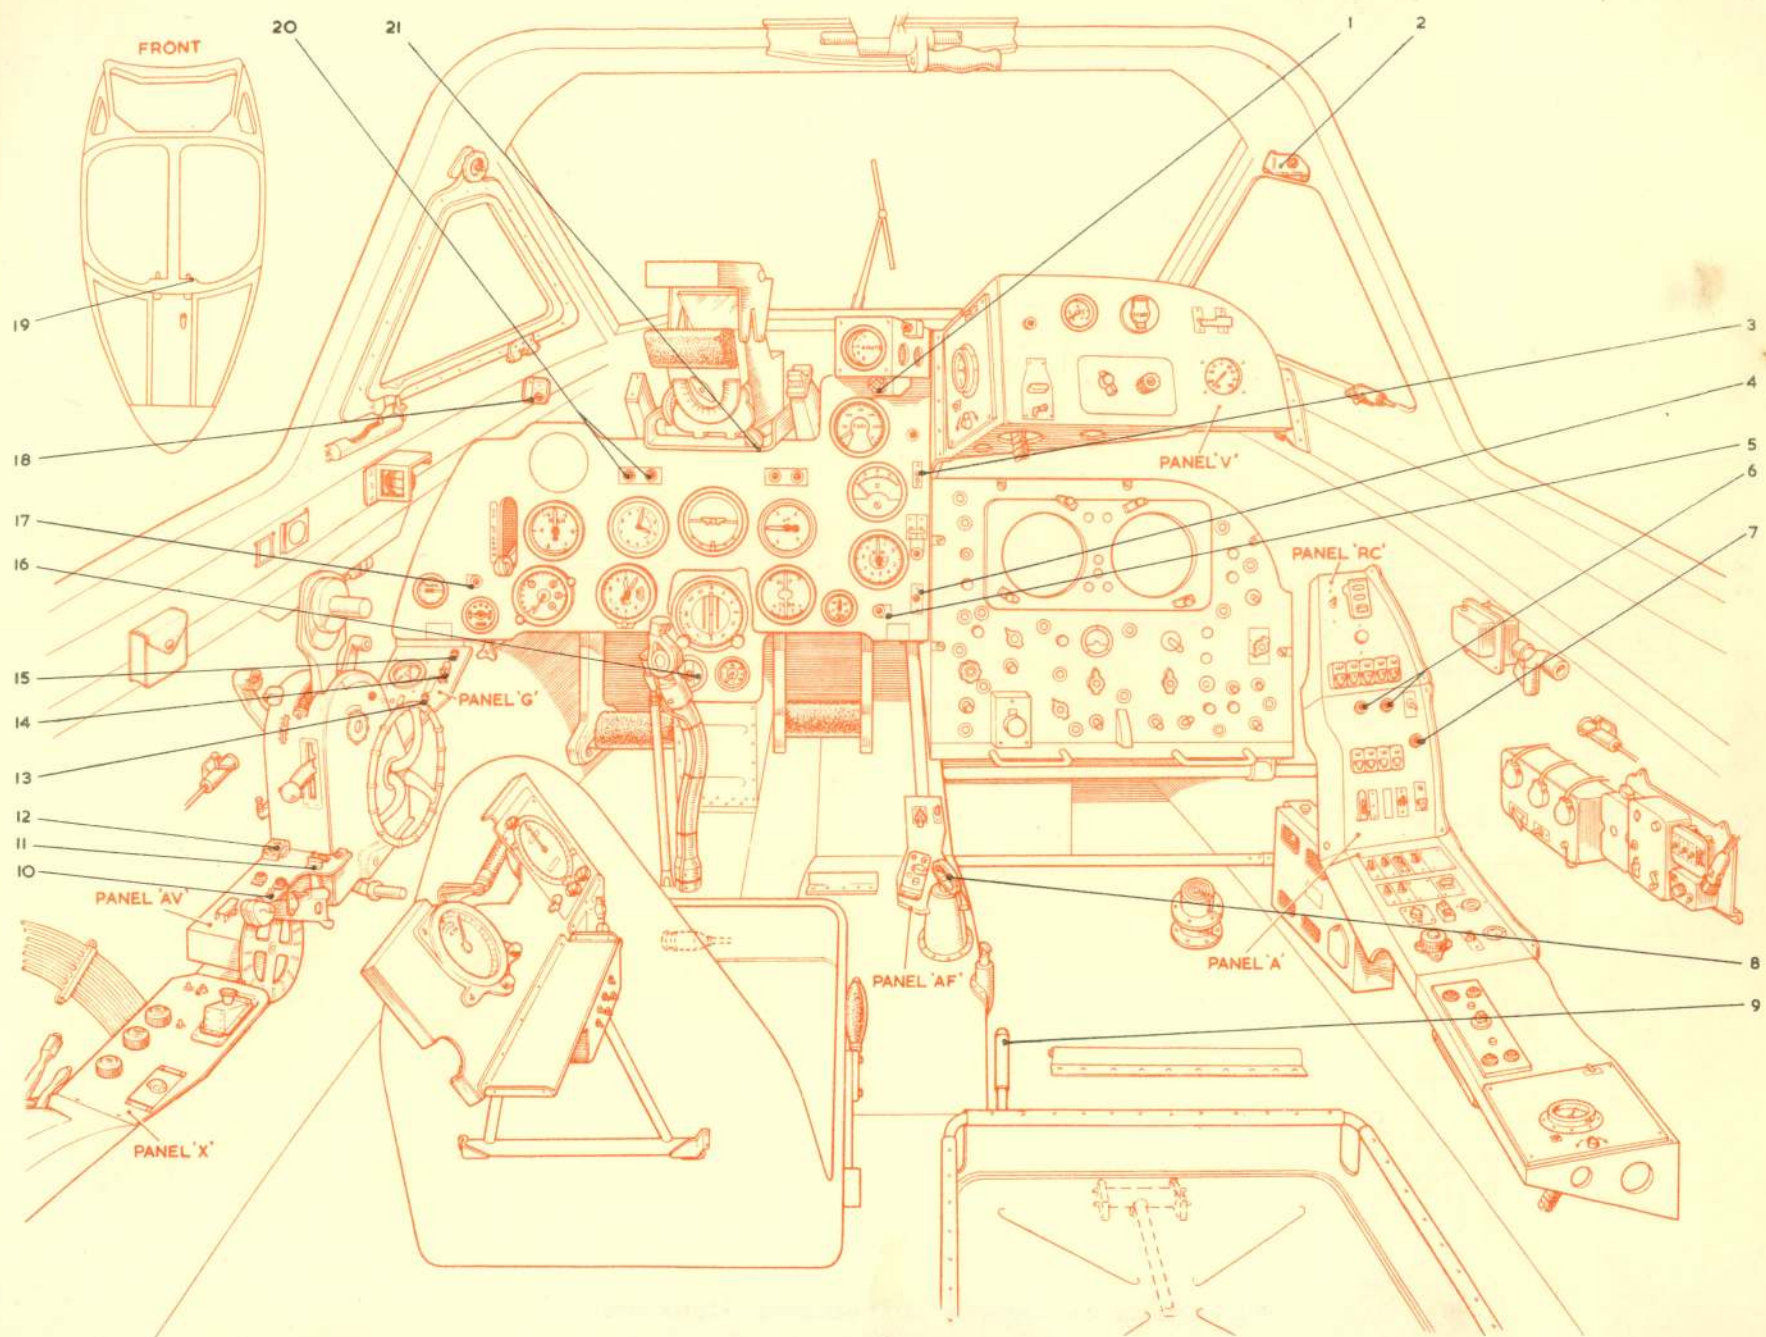

Fig.1 Emergency controls and equipment (early aircraft)
1. This chapter describes the emergency controls and equipment in the cabin and indicates the method of operation wherever this is not obvious. Some emergency equipment is associated with the main systems and where these occur reference to the appropriate section is made in the following paragraphs. The location of controls and equipment is shown in fig. 1 and 2.
Key to Fig. 1 (Emergency Controls and Equipment—Early Aircraft)